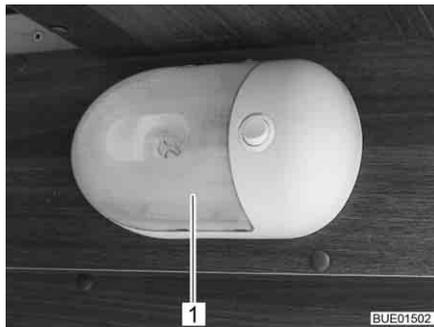

Fig. 265 Surface mounted light
- Carefully push the transparent cover (Fig. 265,1) together from both sides, pull it lightly from the switch and pull it off forwards.